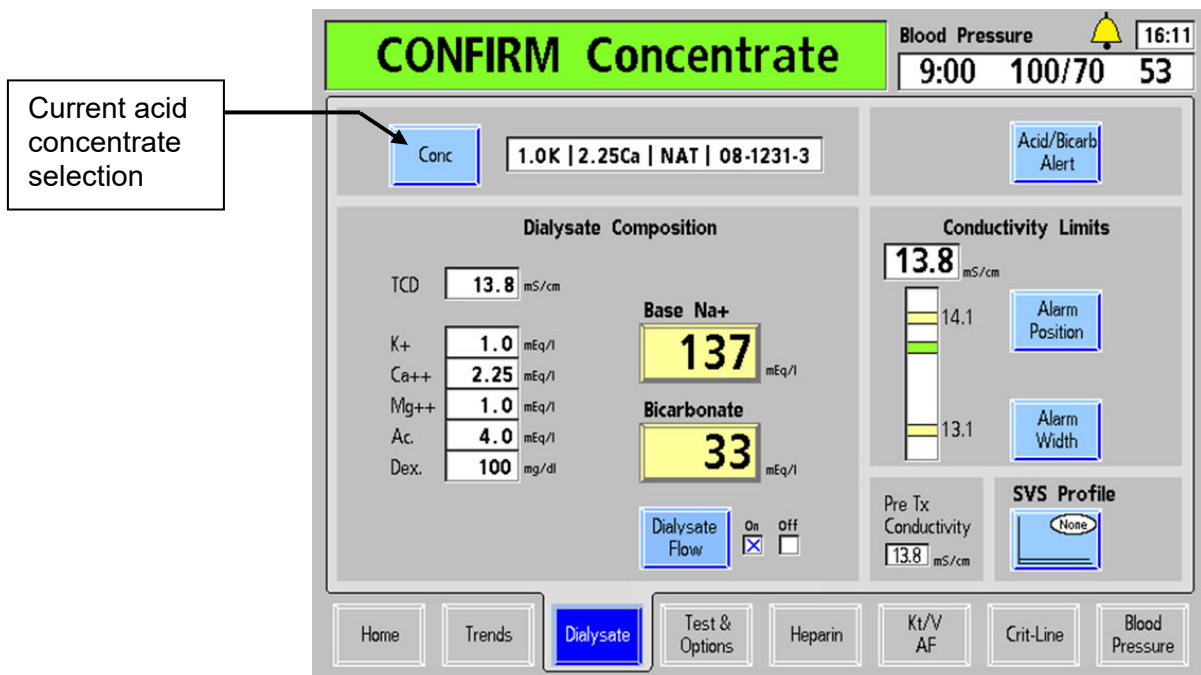

Figure 23 – Confirming Concentrates on the Dialysate Screen (functional software version 2.81 or later)
4. If the machine is being prepared for normal dialysis: select the **Dialysis** button on the display screen by highlighting the button with the touchpad and either tapping or pressing the **CONFIRM** key. The “Dialysate” screen will appear on the monitor (see Figure 23). (The optional touchscreen can be used by touching the **Dialysis** button directly.)